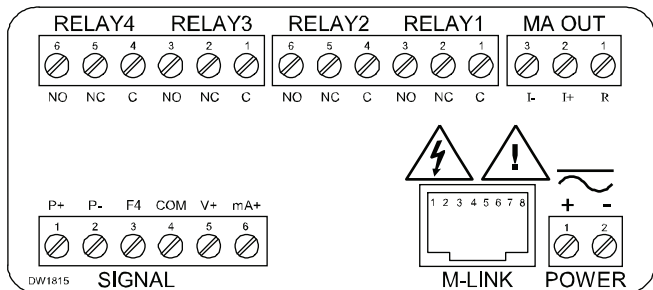

Figure 7. Connector Labeling for Fully Loaded DM61
Power connections are made to a two-terminal connector labeled POWER on Figure 7 on page 20. The meter will operate regardless of DC polarity connection. The + and - symbols are only a suggested wiring convention.
Signal connections are made to a six-terminal connector labeled SIGNAL on Figure 7. The COM (common) terminal is the return for the 4-20 mA and the ± 10 V input signals.
Serial communications connection is made to an RJ45 connector labeled M-LINK on Figure 7. For interfacing to the DM61, use the 101B224-06 for RS-232, the 101B224-07 for RS-485, or the 101B224-08 for USB. The same port is used for interfacing with all expansion modules (e.g. external relays, digital I/O).
Relay connections are made to two six-terminal connectors labeled RELAY1 – RELAY4 on Figure 7. Each relay's C terminal is common only to the normally open (NO) and normally closed (NC) contacts of the corresponding relay. The relays' C terminals should not be confused with the COM (common) terminal of the INPUT SIGNAL connector.